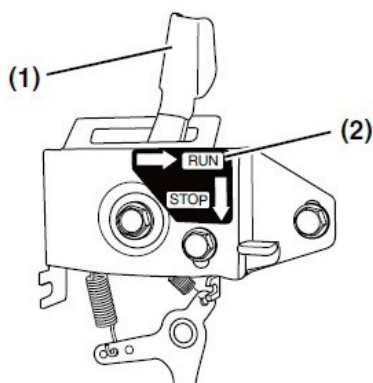

Figure 11
2. If your engine speed control is similar to **Figure 11** slide the engine speed control lever (**Figure 11, (1)**) to the RUN position (**Figure 11, (2)**).